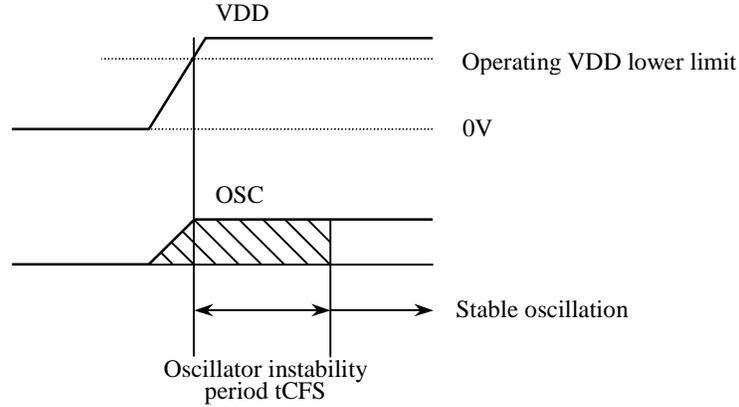

Figure 3 Oscillator Stabilization Period
1. When driven internally using the oscillator circuit shown in Figure 3 with guaranteed constants, values up to the amplitude of the generated oscillation are allowed.